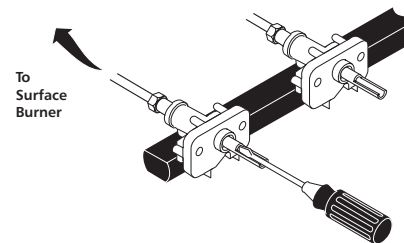

Figure 9
- e. Insert a thin-bladed screwdriver into the hollow valve stem and engage the slotted screw inside. Flame size can be increased or decreased with the turn of the screw. Turn counterclockwise to increase flame size. Turn clockwise to decrease flame size. (See Figures 9 and 10).